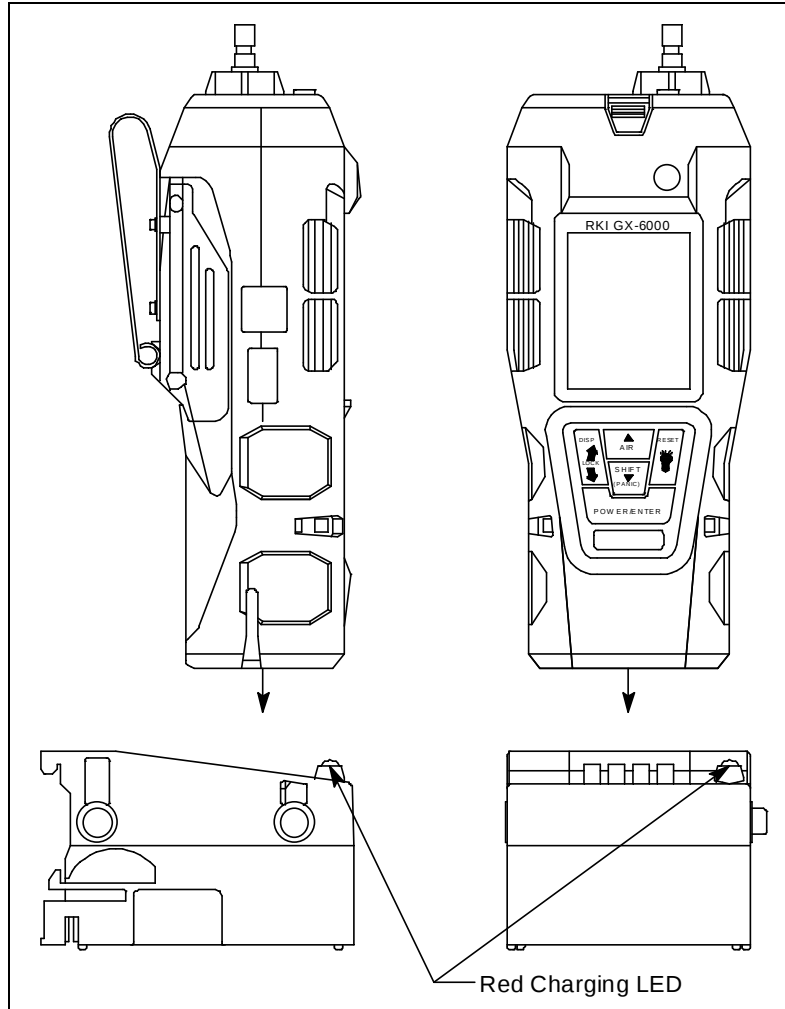

Figure 18: Putting the GX-6000 into the Charging Station
4. Place the GX-6000 into the battery charging station as shown in Figure 18 below so that the metal contacts on the back of the unit come into contact with the metal contacts on the back of the holder in the charging station. When proper contact has been made, the red LED on the charging station will turn on.